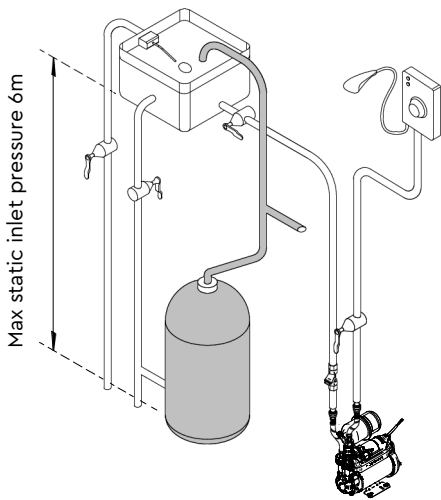
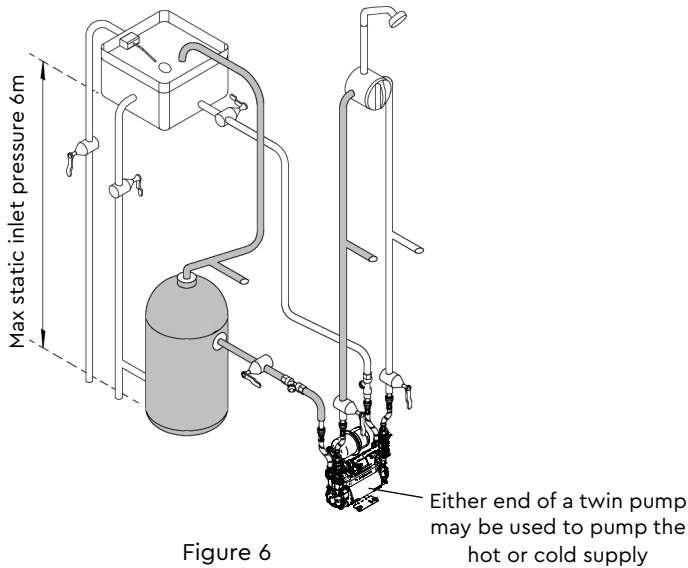

Figure 5
Figure 6
- **Static inlet pressure:** Before deciding where to locate the unit, check to ensure the static inlet head between pump and the bottom of the cold water tank (Figure 5 and Figure 6), is at least 0.5 metres and does not exceed the max inlet head of 6 metres.
- **Static outlet pressure:** The static outlet head must also be within the maximum requirement (Figure 5 and Figure 6).